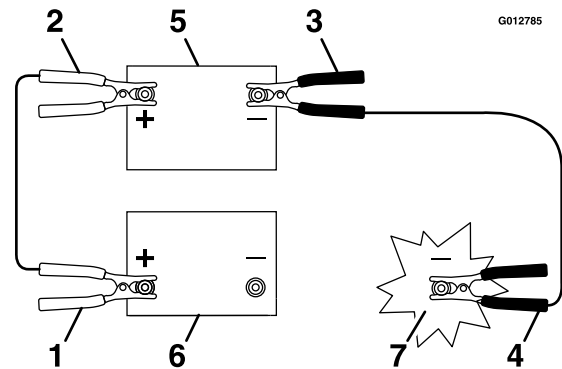

Figure 50
3. Connect the positive (+) cable to the positive (+) terminal of the discharged battery that is wired to the starter or solenoid as shown in Figure 50.